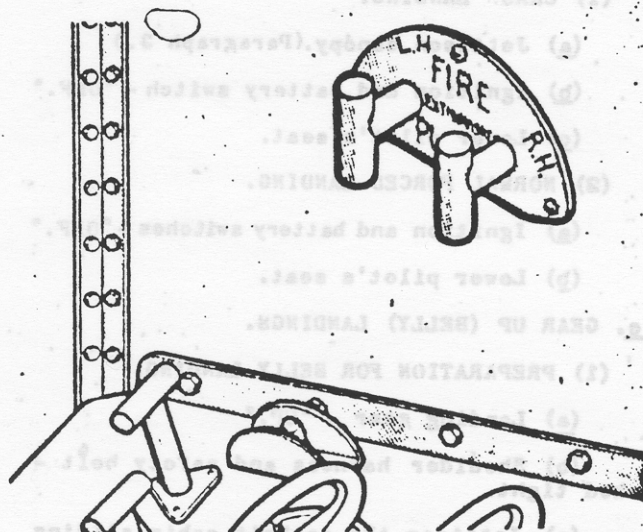

Figure 30 — Fire Extinguisher Control
- (1) Master ignition switch button - "OFF."
- (2) CO₂ fire extinguisher - "L.H. on or "R.H. on, whichever engine is affected. The fire extinguisher control is located on the left hand side of the cockpit. (See figure 30.)
- (3) Stand-by captain shall apply CO₂ to the source of the flame.